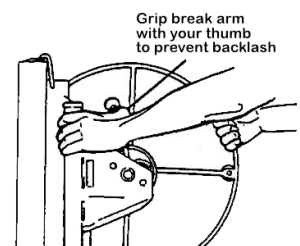

Figure 3
- b) Raise the brake arm all the way up. Grasp the winch post, and grip the brake arm firmly with your thumb. (Figure 3)